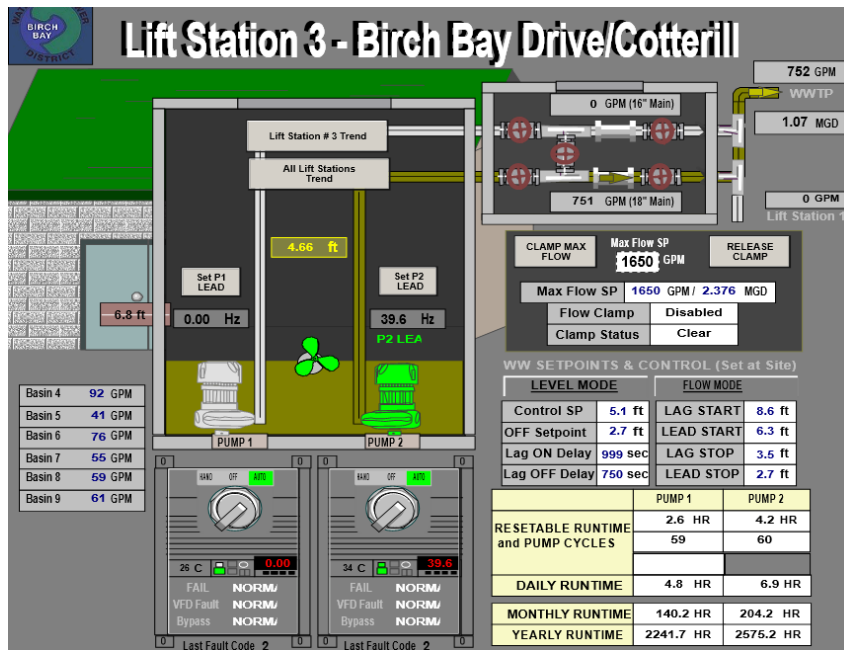

Figure 3 - Portion of LS#3 SCADA Screen to demonstrate Flow Clamp
- Pump Control** – During extreme flow events or in situations during which downstream pumping capacity might be affected, we want the ability to clamp flow at a certain amount and utilize system “storage capacity.” For example, if we know that upstream sites are causing huge swings in flow into downstream sites (as they cycle on/off), we might clamp flow (put a flow limit) at a site that has a VFD (Variable Frequency Drive). In other words, instead of the pump now cycling from 600 to 1800 gpm on and off, we might “clamp” flow at 1200 gpm, and let the pump run at that flow for a longer period of time: this allows the wetwell level to cycle up and down a bit more than usual, keep flows smooth and consistent, and helps the rest of the system, particularly the process at the WWTP. An example is provided in Figure 3 (LS #3) below. This site has flow meters and VFDs. Using our SCADA system, we can monitor all events, clamp flow, and change the flow clamp as necessary, to provide for good, smooth, consistent flow into the WWTP.